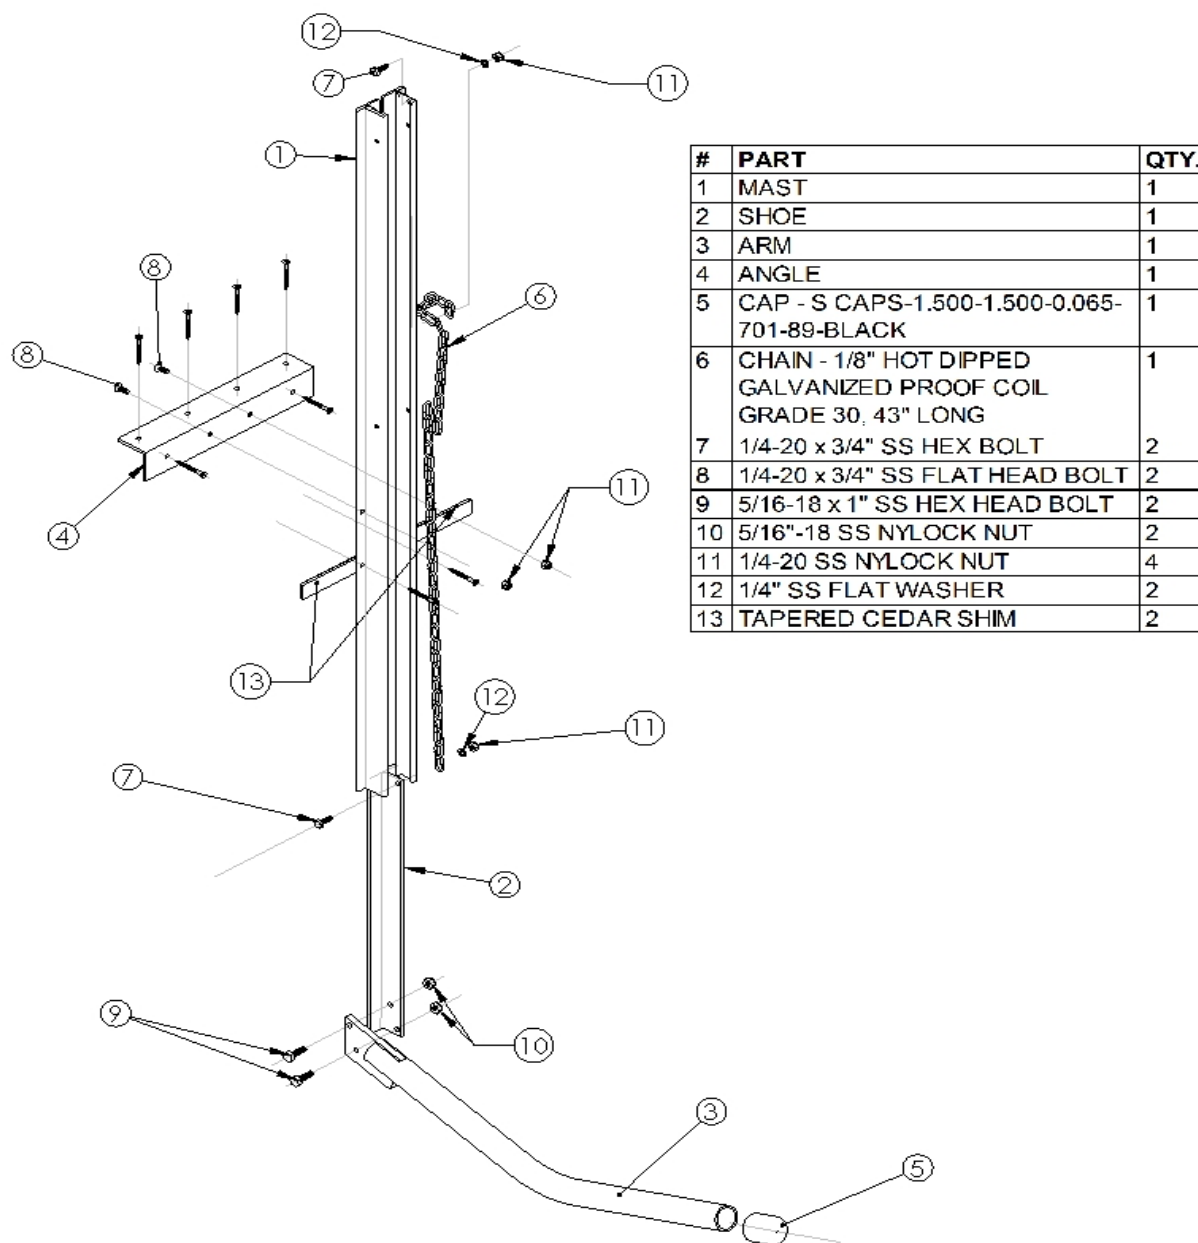

FIGURE 1
- Parts List (Refer to Figure 1):
- One of each of the following: mast (1), shoe (2), arm (3), angle (4), cap (5), and chain (6)
- Two of each of the following: 1/4"-20 x 3/4" SS hex head bolt (7), 1/4"-20 x 3/4" SS flat head bolt (8), 5/16"-18 x 1" SS hex head bolt (9), 5/16"-18 SS Nylock nut (10), 1/4" SS flat washer (12) and tapered cedar shims (13)
- Four of the following: 1/4"-20 SS Nylock nut (11)
- Completing the assembly (Refer to Figure 1):
- Using 2 flat head bolts (8) and 2 Nylock nuts (11) fasten the angle (4) onto the mast (1) through the upper set of holes in the mast flanges.
- Using 2 hex head bolts (9) and 2 Nylock nuts (10) fasten the bent arm (3) onto the bottom of the shoe (2). Note that the bolts pass through the arm plate first and then the shoe.
- Using hex head bolts (7) washers (12) and Nylock nuts (11) fasten one end of the chain (6) to the top of the mast and the other end of the chain to top of the shoe.
- Mounting details will vary depending on dock construction. The following is one example for mounting on a straight sided wooden dock (Refer to Figures 1 & 2):